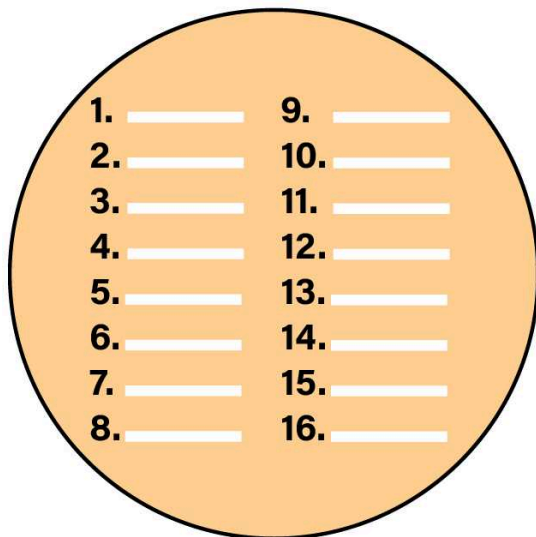

Figure 4: Example of a patched plate.
5. Take that same tip used to pick a colony and create a short streak on an LB agar + kanamycin plate. Mark the streak with the associated PCR tube number (see **Figure 4**)